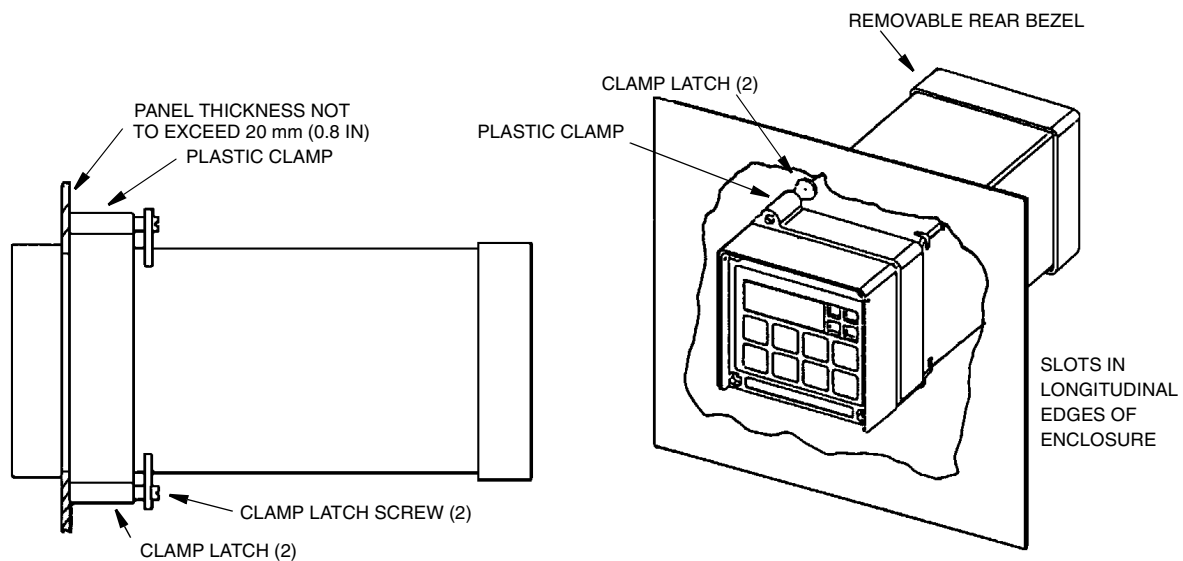

Figure 6. Mounting to a Panel - Metal Enclosure
3. From the rear of the panel, slide the plastic clamp onto the enclosure until the two clamp latches snap into two opposing slots on longitudinal edges of the enclosure. See Figure 6.